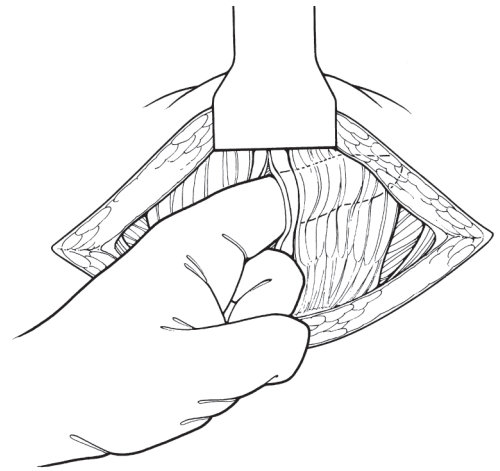

Figure 4-8. Separate Linea Alba
10. Make a suprapubic incision, divide rectus fascia transversely, and use a spreading motion to separate the linea alba to reach prevesical space. (Figure 4-8)